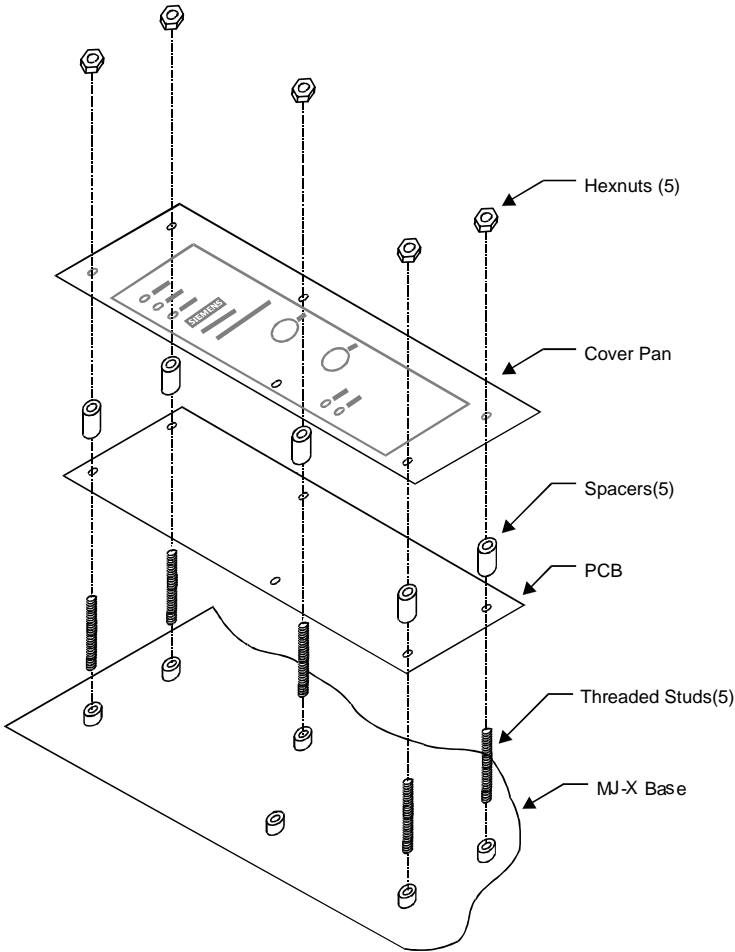

Figure 5-2 Communications Module Installation in MJ-X.
- 6. Mount the communications module printed circuit board to the MJ-X base with six 6-32 x 7/16" standoffs, Figure 5-2. Ensure that the membrane switch cable is folded over itself and under the communications module printed circuit board as shown in Figure 5-3.
7. Mount the communications module pan cover (if provided) with six 6-32 x 3/8" screws as shown in Figure 5-2.